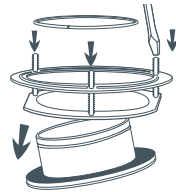

Fig. 3 Disassembling the mounting system
- 2 Turn the mounting assembly over and remove the flange ring from the track on the sink flange. Undo the three screws holding it together. This will allow the sink flange, mount ring, and protector ring to separate (fig 3). Use the flat blade screwdriver as a lever if required.